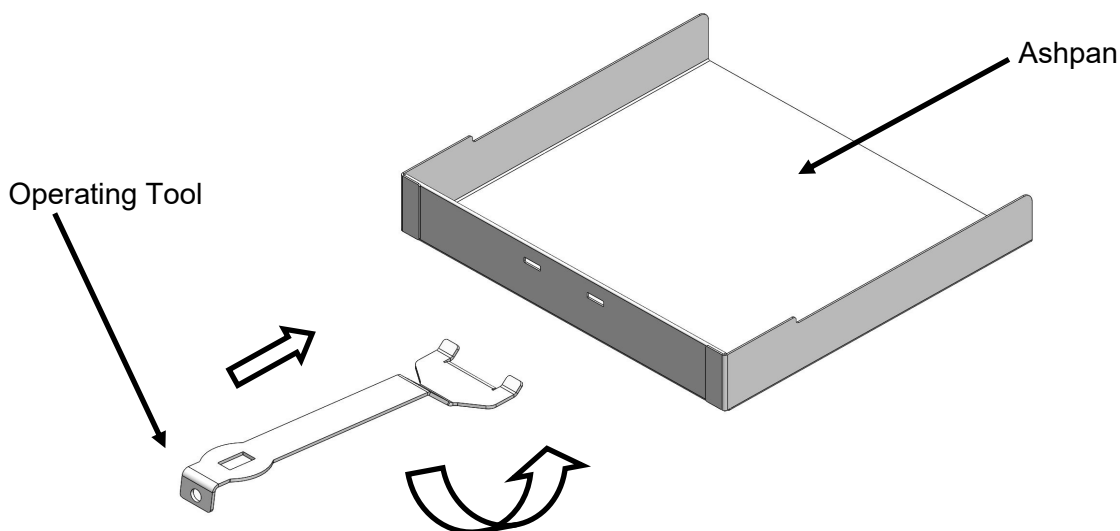

Fig. 7. Ash Pan
- Insert the fork end of the operating tool into the ash pan (see Fig. 7.).